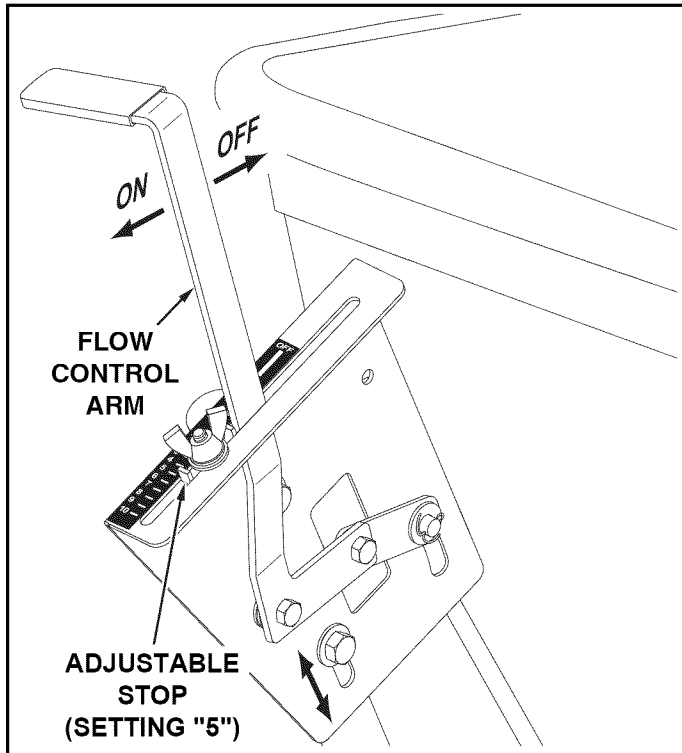

FIGURE 8
STEP 8: (SEE FIGURE 8)
(Refer to figure 8 on page 6.)